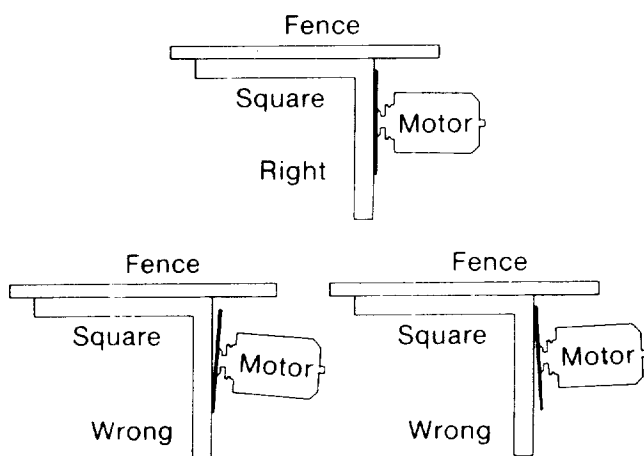

Fig. 71
5. If the square is flush with the *blade* after each rotation, no change is needed. (Figure 71) Go to the next section, or
If there is a gap between the square and the *blade* after any rotation, go to step 6. (Figure 71)